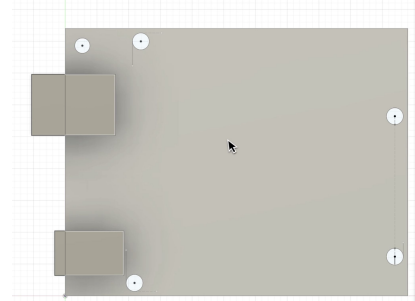

Figure 1.3
- From this lesson, you'll see the basic outline of the circuit board modeled in CAD. This serves as the foundation for building the enclosure and ensures accurate alignment as you design around it (see Figure 1.3).